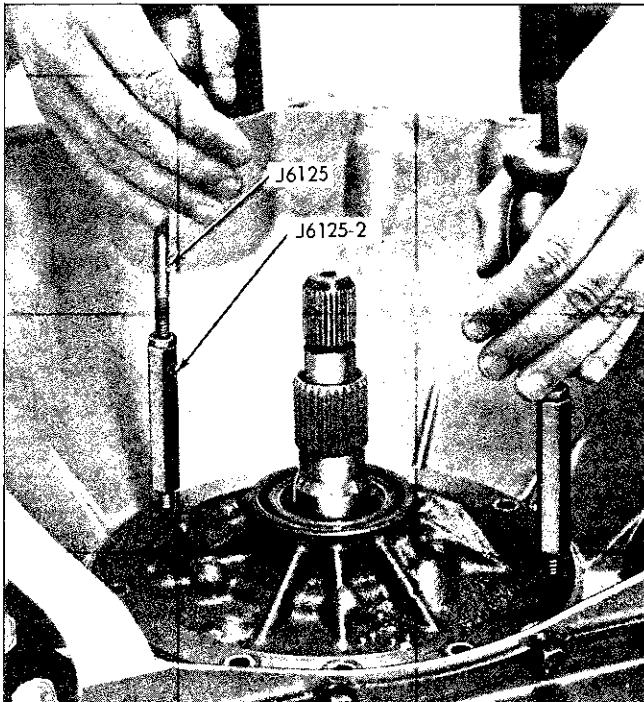

Fig. 7F-28 Removing Oil Pump
1. With transmission in vertical position, remove eight oil pump attaching bolts. Install slide hammers J 6125 and adapters J 6125-2 into threaded holes in pump, loosen pump and remove pump and gasket (Fig. 7F-28).